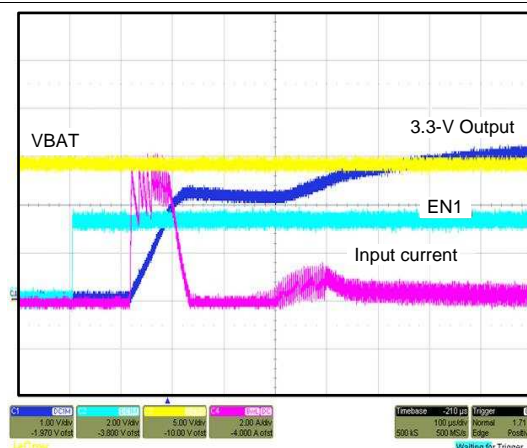

图 16. Partially Discharged SS Capacitor Causes Nonmonotonic Ramp and High Input Currents
- A nonmonotonous ramp (see 图 16)
- High inrush-current (up to 6 A, see 图 16)